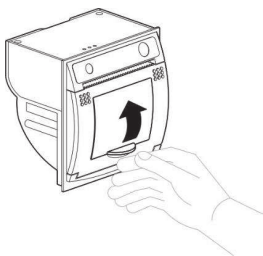

Figure 1
- To open, pull on the handle until it disengages from its locked position (see figure 1 and 2).